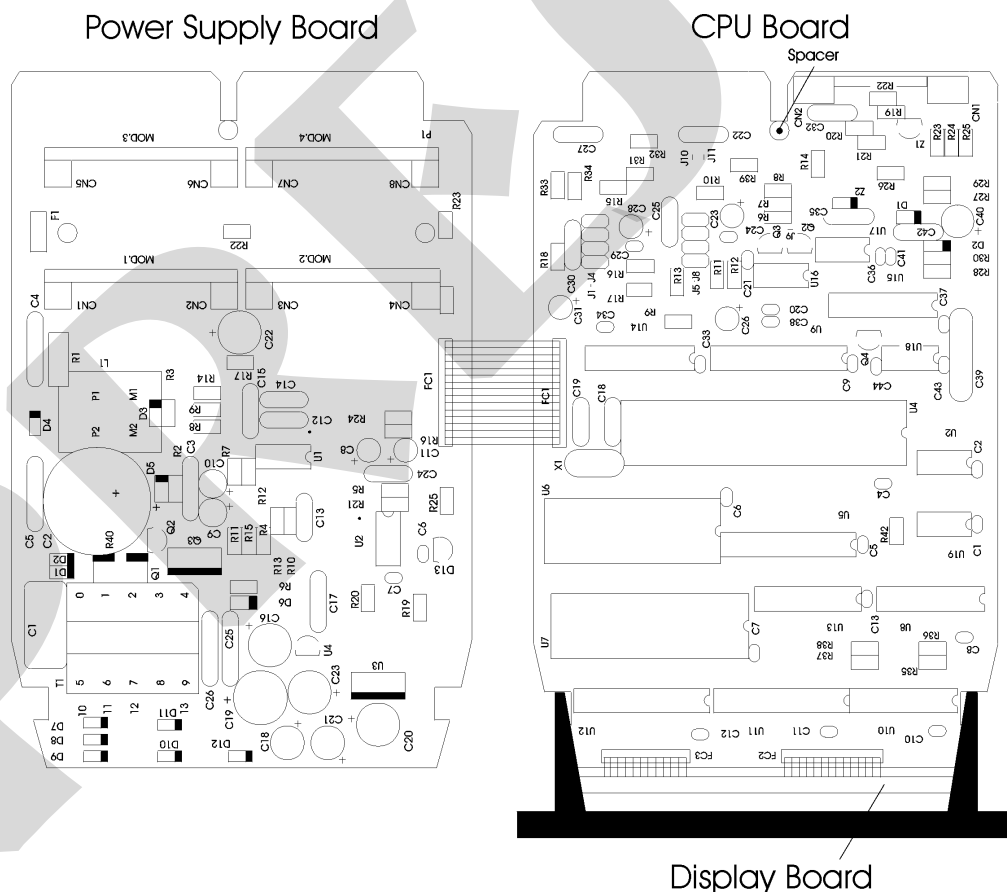

Fig. 17 - Indicator Hardware
- iv) Move the Power Supply Board to the right and open the boards according to Figure 17.
Verify the integrity of fuse F1 of 2 A placed in the Power Supply Board as shown in figure 17. Due to its package it is necessary to check the fuse continuity in order to detect if it is broken.